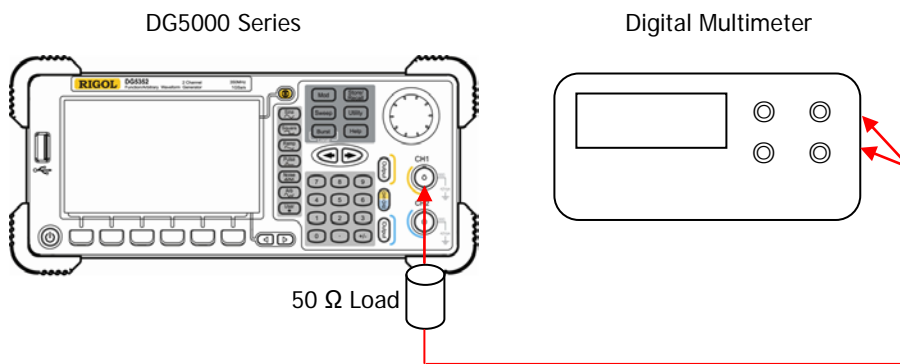

Figure 2-2 Connect DG5000 and the Digital Multimeter via the 50 Ω Load
1. Connect the 50 Ω load to the CH1 of DG5000; connect the 50 Ω load and the voltage input terminals of the digital multimeter using the BNC-Dual banana plug cable as shown in **Figure 2-2**.